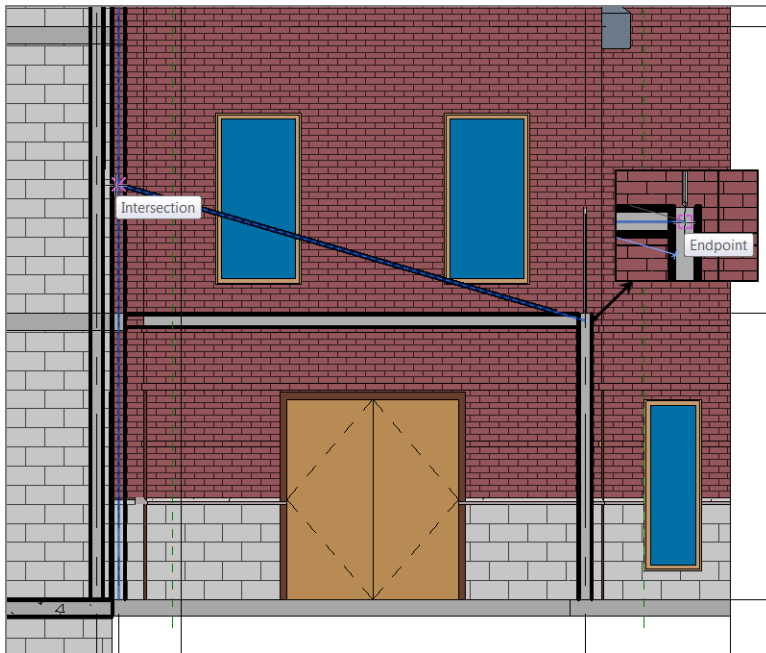

FIGURE 8.48: Finding the points along the column and beam to attach the rod
19. Draw a diagonal rod between the points shown in Figure 8.48, and press Esc.